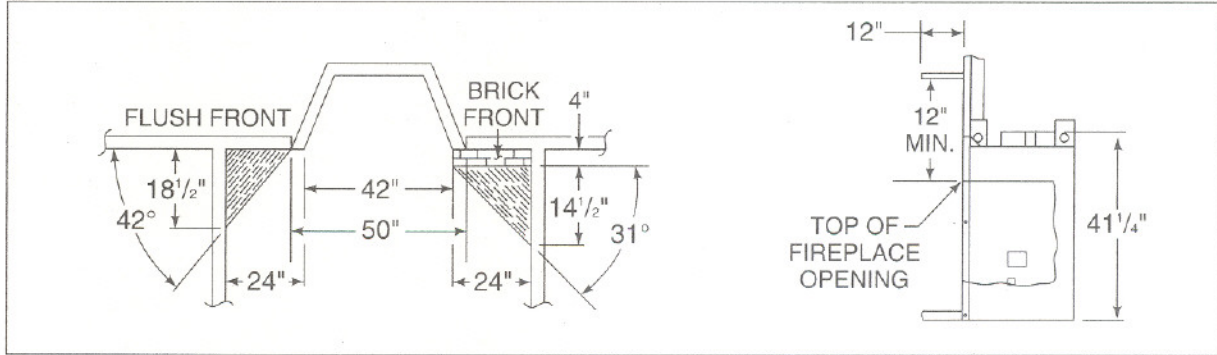

Figure 7
Adjacent combustible side walls must be located a minimum of 24" from the fireplace opening. See Figure 7. If you are using a decorative surround constructed of combustible material, it must be located
within the shaded area defined in Figure 7. Short stub walls are also acceptable if they are contained within the shaded area.
or mantel support brackets may be located within the shaded area on each side of the firebox, as defined in Figure 7.
2. Subtract the height of the firebox assembly (41 $\frac{1}{4}$ ") from the overall height of the fireplace installation. See Figure 7 (page 11).